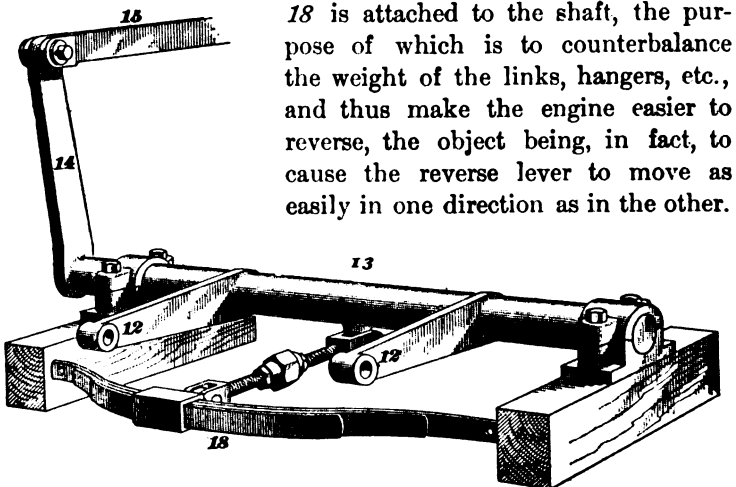

FIG. 35.
38. In order that a locomotive may be reversed, it is necessary that means be provided for raising and lowering the links. This is accomplished by means of a shaft, called a **tumbling shaft**, actuated by the reverse lever situated in the cab. The tumbling shaft is illustrated in Fig. 35, in which the horizontal arms (often called the lifting arms) of the shaft are marked 12, and the shaft itself 13. It will be observed that there are two horizontal arms, each arm being connected by a link hanger to the link on its side of the engine. The vertical arm 14 (often called the reversing arm) is connected, by means of the reach rod 15, to the reverse lever; hence, by moving the reverse lever in the proper direction, the engineer can either